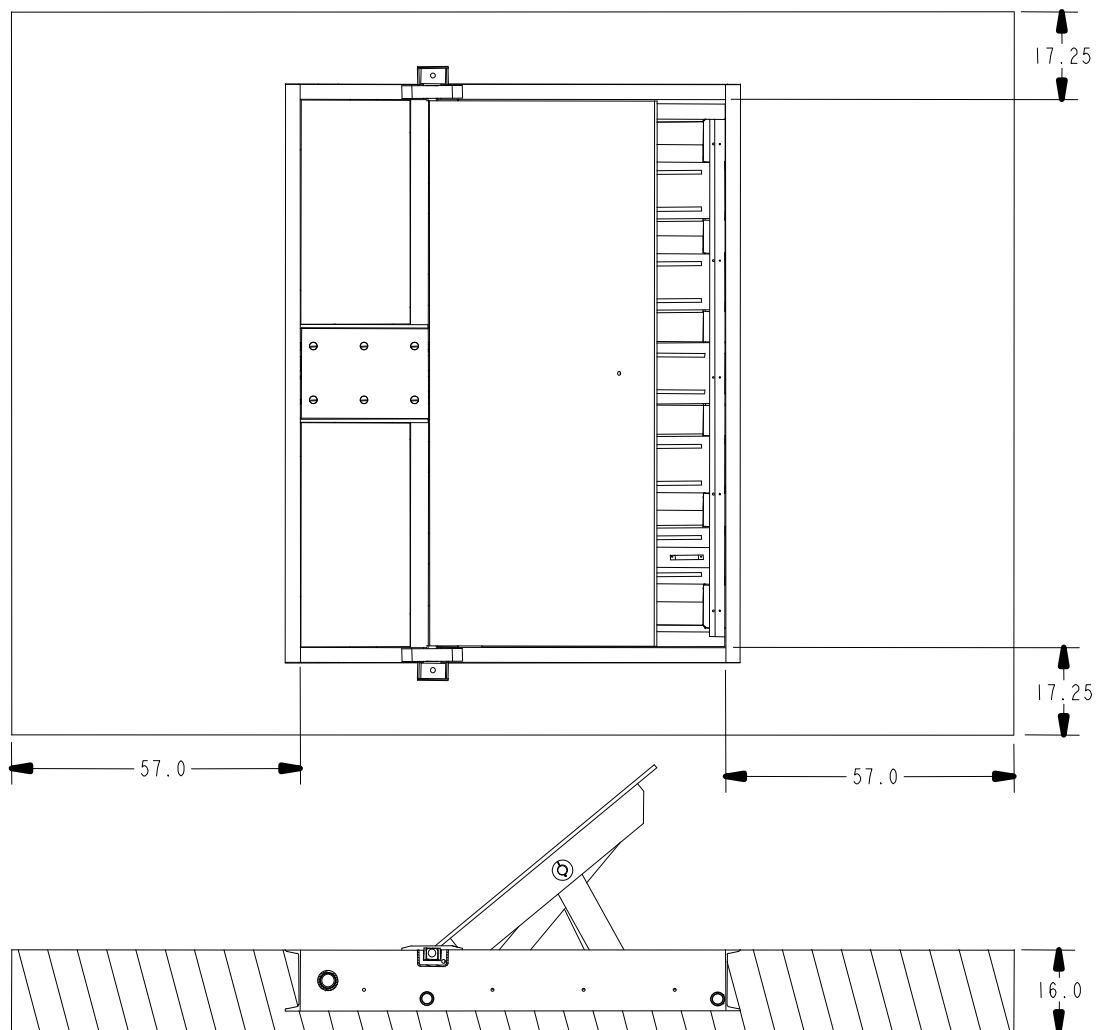

Figure 3 Barrier Concrete Pad Dimensions
3. Locate barrier in center of concrete pad site as shown in figure 3.